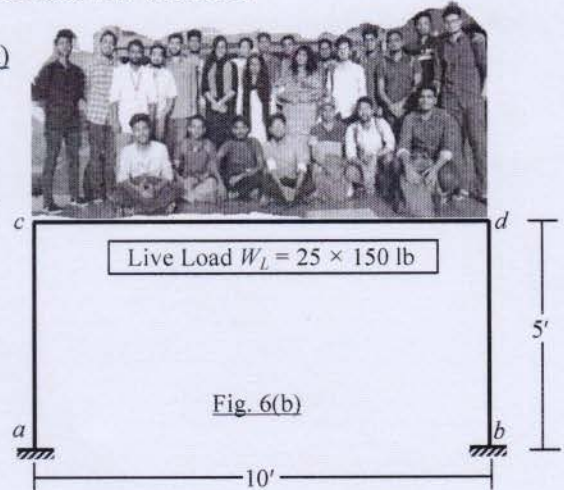
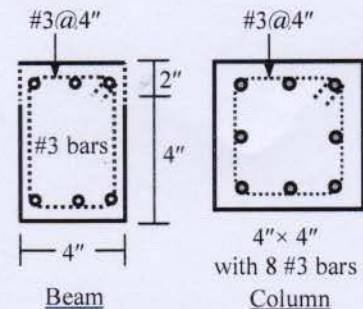

Fig. 6(b)
Fig. 7(a)
7. Given the beam and column sections shown in Fig. 7(a) for the RC frame in Fig. 6(b), with $f_y = (50 + \text{Roll No.}/10)$ ksi, $f'_c = f_y/15$, check if the